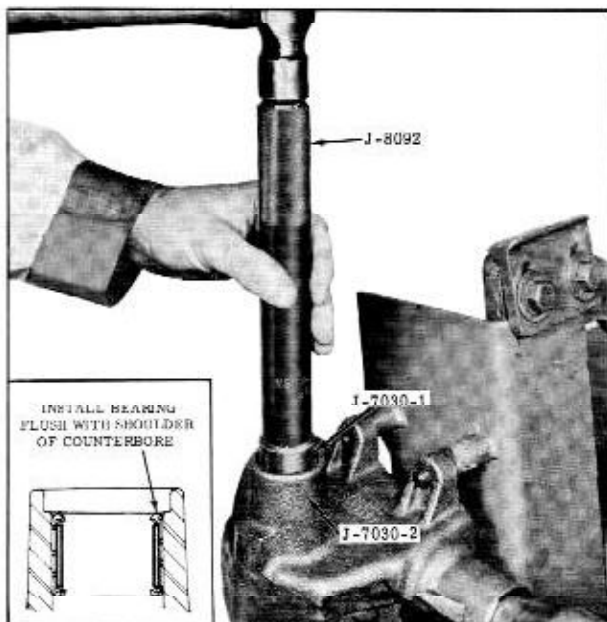

Fig. 4-14 Installing Pitman Shaft Bearing
1. If pitman shaft needle bearing was removed, install Ring J-7030-2 over J-7030-1 and place stamped end of new bearing (manufacturer's name) over end of Tool J-7030-1, then drive bearing into housing until Ring J-7030-2 bottoms in bore. (Fig. 4-14) Pack bearing with SAE 80 Multi-Purpose Gear Lubricant.